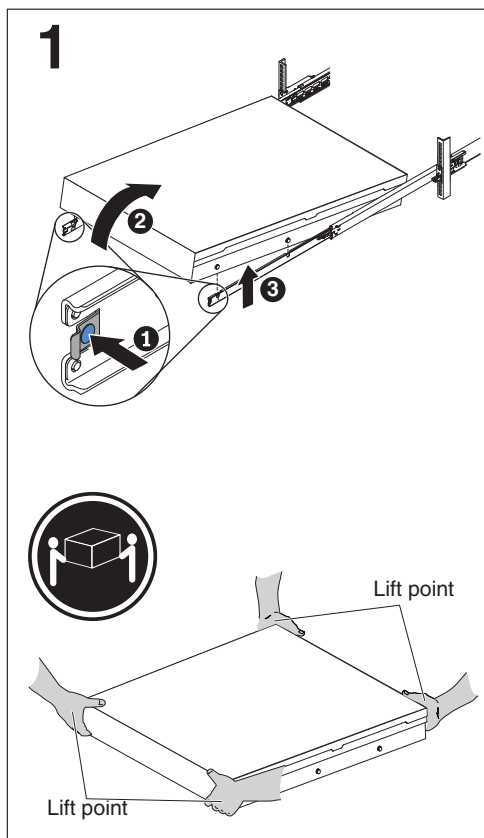

Figure 64. Removing the SAN Volume Controller 2145-DH8 from the rack
2. Optionally remove the node from the rack. Pull the locking levers (**1** in Figure 64) forward, and pull the server forward along the slide rails.